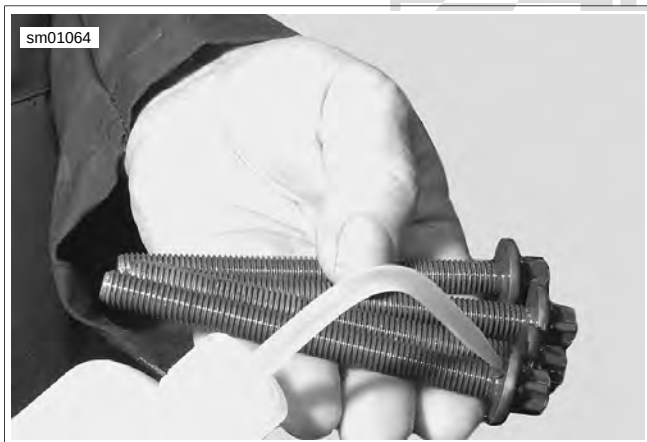

Figure 3-82. Lubricate Head Bolts
3. See Figure 3-82. Use GENUINE HARLEY-DAVIDSON H-D 360 20W50 MOTORCYCLE OIL to lubricate the four main head bolt threads and under the bolt head.